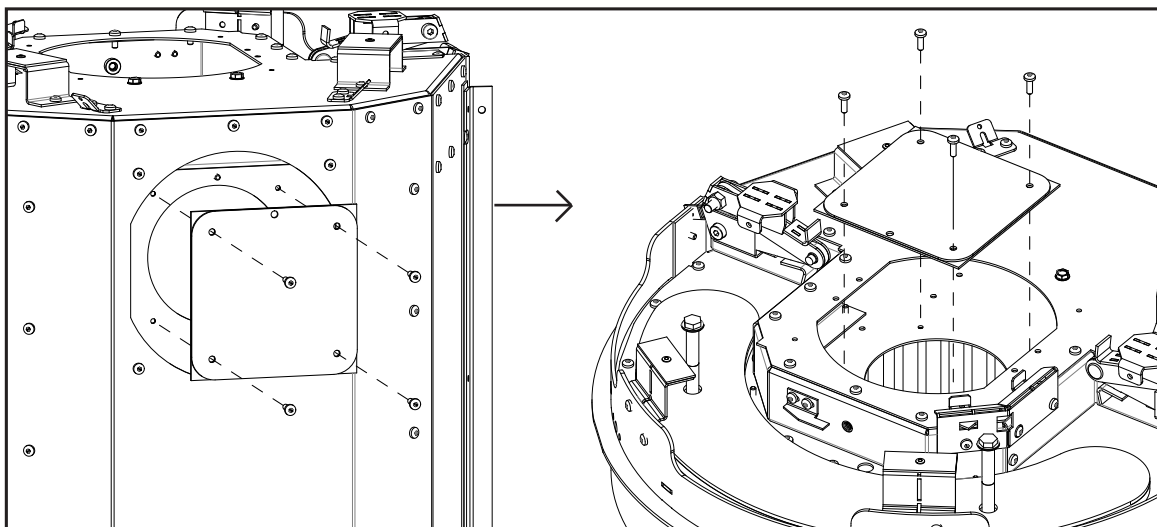

Figure 71: Inner Block-Off Plate Removal and Attachment
9. Remove the outer and inner block-off plates from the back of the unit and attach them to the top of the unit where the exhaust spigot and vent collar were attached (see Figure 71).